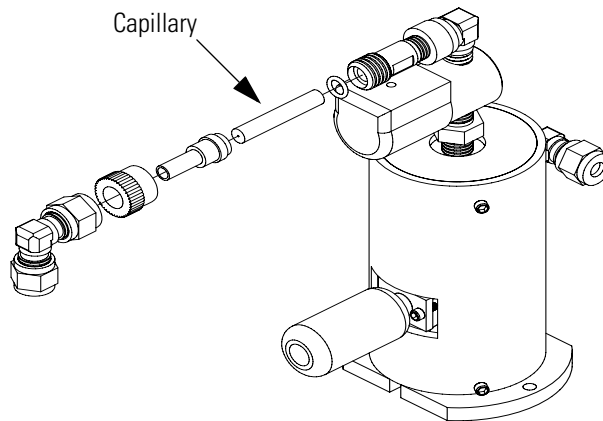

Figure 5-2. Replacing the Ozonator Capillary
Use the following procedure to replace the ozonator capillary (Figure 5-2).
2. Unscrew the knurled fitting, separate the components, and remove the capillary (Figure 5-2).